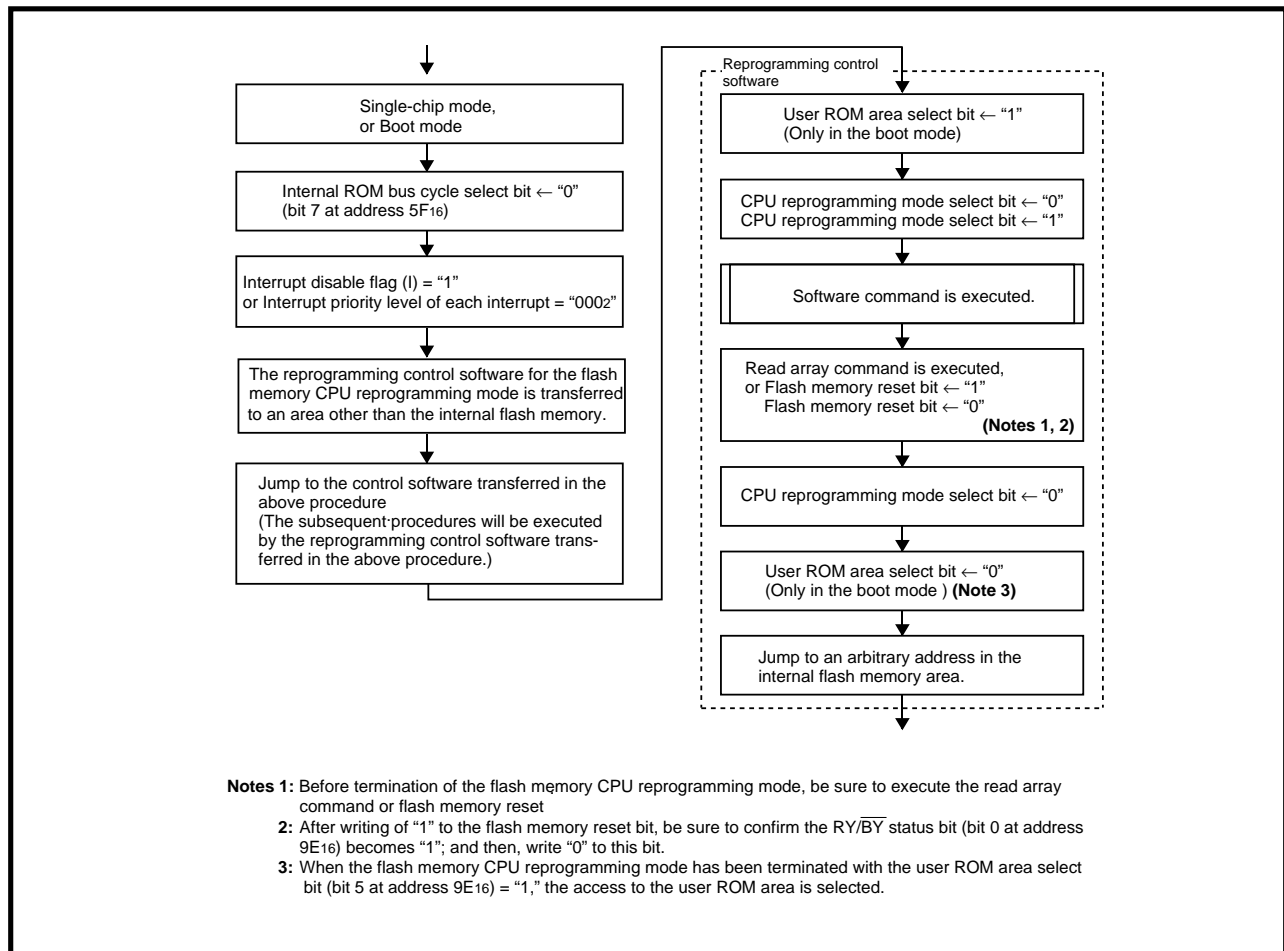

Fig. 19.2.2 Setting and Terminate procedures for flash memory CPU reprogramming mode
Figure 19.2.2 shows the setting and terminate procedures for the flash memory CPU reprogramming mode. In the flash memory CPU reprogramming mode, opcodes cannot be fetched for the internal flash memory. Therefore, be sure to transfer the reprogramming control software to an area other than the internal flash memory and then execute the software in that area.
1. In the flash memory CPU reprogramming mode, an opcode cannot be fetched for the internal flash memory. Accordingly, be sure to transfer the reprogramming control software to an area other than the internal flash memory area, and then execute the software in this area. (See Figure 19.2.2.) Also, take consideration for instruction description (such as specified addresses, addressing modes) in the reprogramming control software since this software is to be executed in an area other than the internal flash memory area.
2. In order to prevent any interrupt occurrence during the flash memory CPU reprogramming mode, before selecting this mode, be sure to set the interrupt disable flag (I) to "1" or set the interrupt priority level to "000₂" (interrupts disabled). Also, we recommend to connect pin P6OUT_{CUT} with V_{CC} via a resistor. Even in the flash memory CPU reprogramming mode, periodically writing to the watchdog timer is required. Also, an interrupt, hardware reset, or software reset, generated in the CPU reprogramming mode, makes program runaway. If a program runaway has occurred, be sure to push the microcomputer into the power-on reset state.